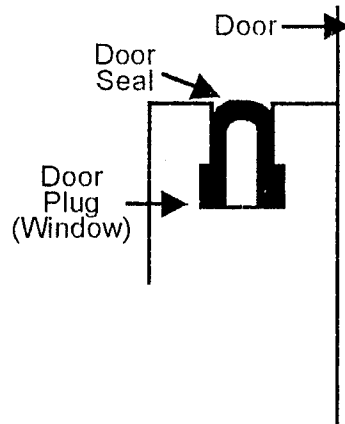
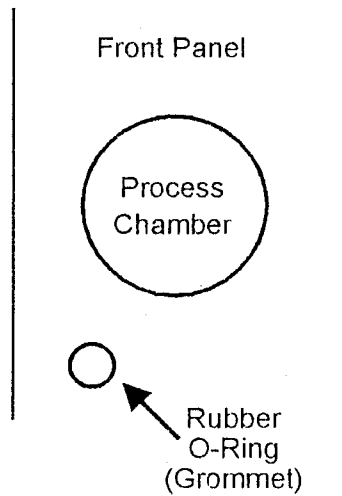

FIGURE 2
FIGURE 3
4. Door Seal - Remove the door seal from the channel in the window. Insert the new seal in the channel, making sure it is in the correct position (see figure 2 on the next page). When replacing the door, replace the rubber O-Ring (Grommet, see figure 3 on the next page), if it is damaged or worn. To replace the door, reverse the door removal procedure.